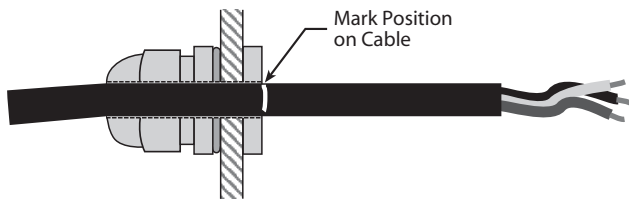

Figure 2-1. Mark Length of Cable at Inside of Cord Grip
3. Loosen cord grips, then route cables through the stainless steel cord grip. Determine cable length required to reach connector J1. Mark the cable at the inside edge of the cord grip (see Figure 2-1 on page 5).